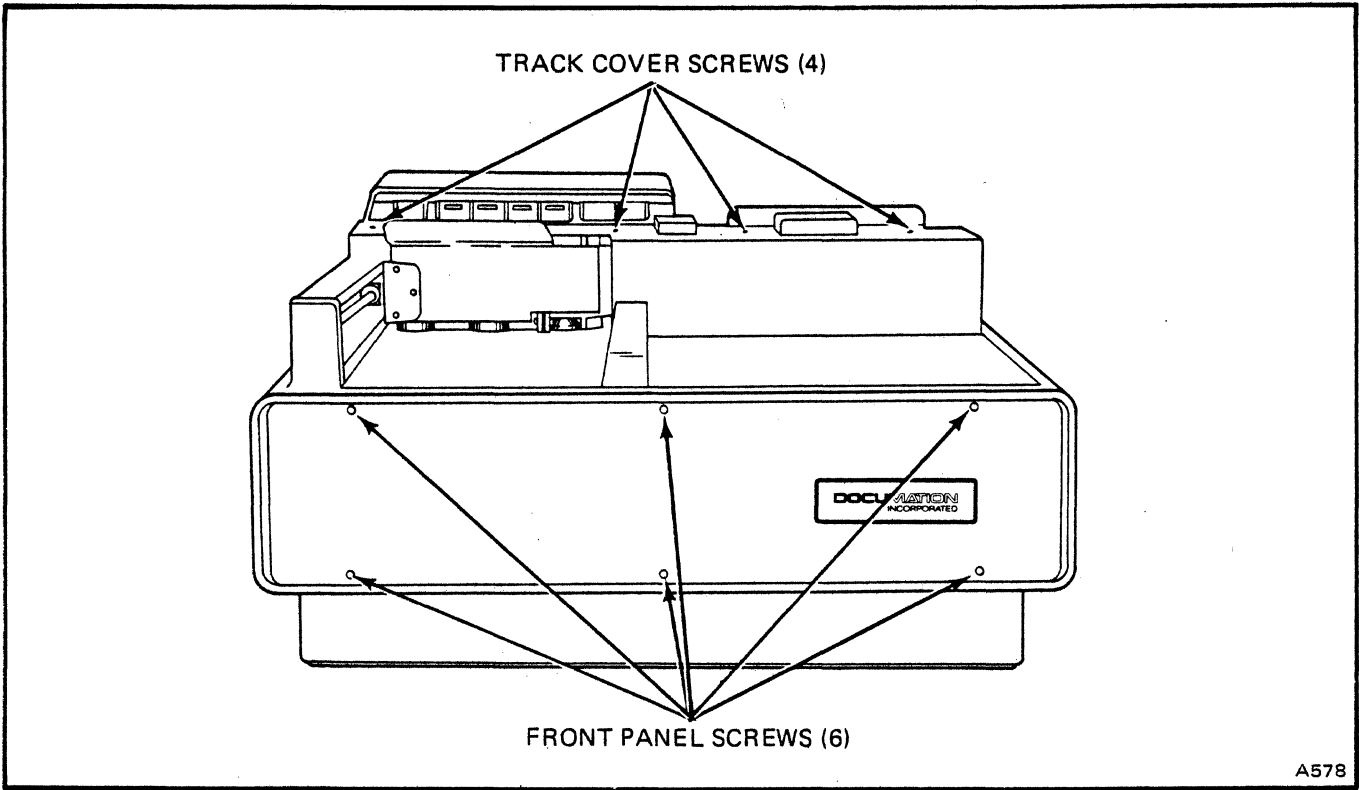

Figure 4-13. Removal of Front Panel and Track Cover
- a. Remove six screws from front panel (Figure 4-13), then remove panel.
- b. Remove four screws from track cover (Figure 4-13), then remove cover.